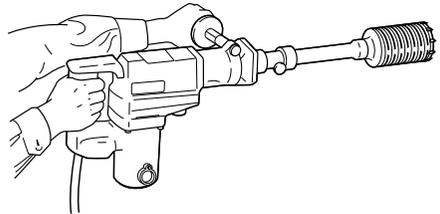

Fig. 15
- (1) Insert the plug into a power supply receptacle.
- (2) A spring is built in the center pin. By straightly and gently pressing it to the wall or floor surface, the entire surface of the core bit tip attains contact to start the hole drilling job. (Fig. 15)
- (3) When the hole depth reaches approximately 3/16" (5 mm), the hole position can be determined. Then remove the center pin and guide plate from the core bit and continue the hole drilling job.